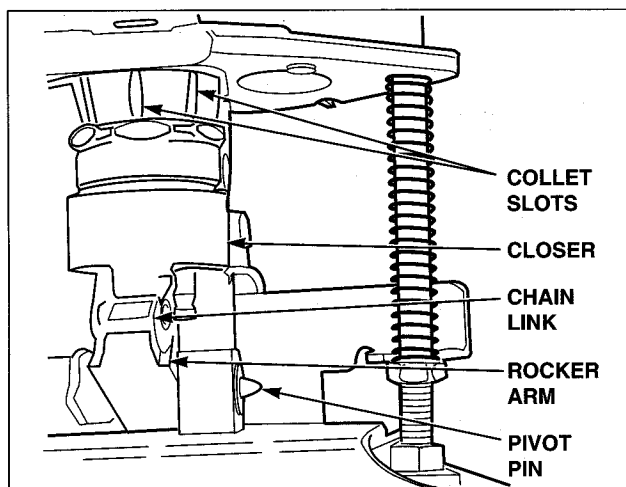

Figure 47
8. Remove all pellets or powder from collet slots, Figure 47.
1. Remove pivot pin and disassemble chain link, Figure 47.